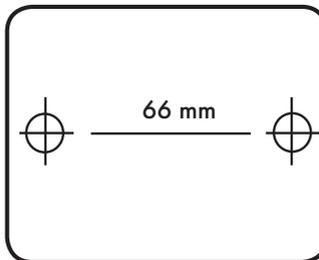
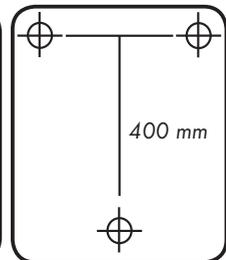

Fig. 2: Drill holes
Fig. 3: Drill holes
1. Mark the 2 drill holes with regard to the distances indicated in Figure 2. Use 3 drill holes when the item is wall mounted with towel holder ( see Fig. 3)